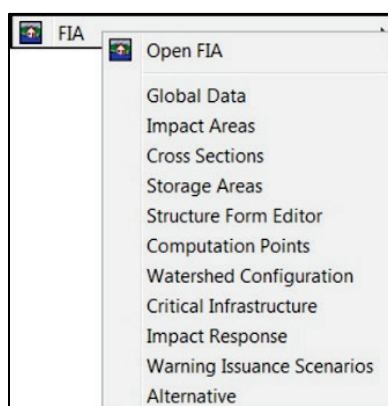
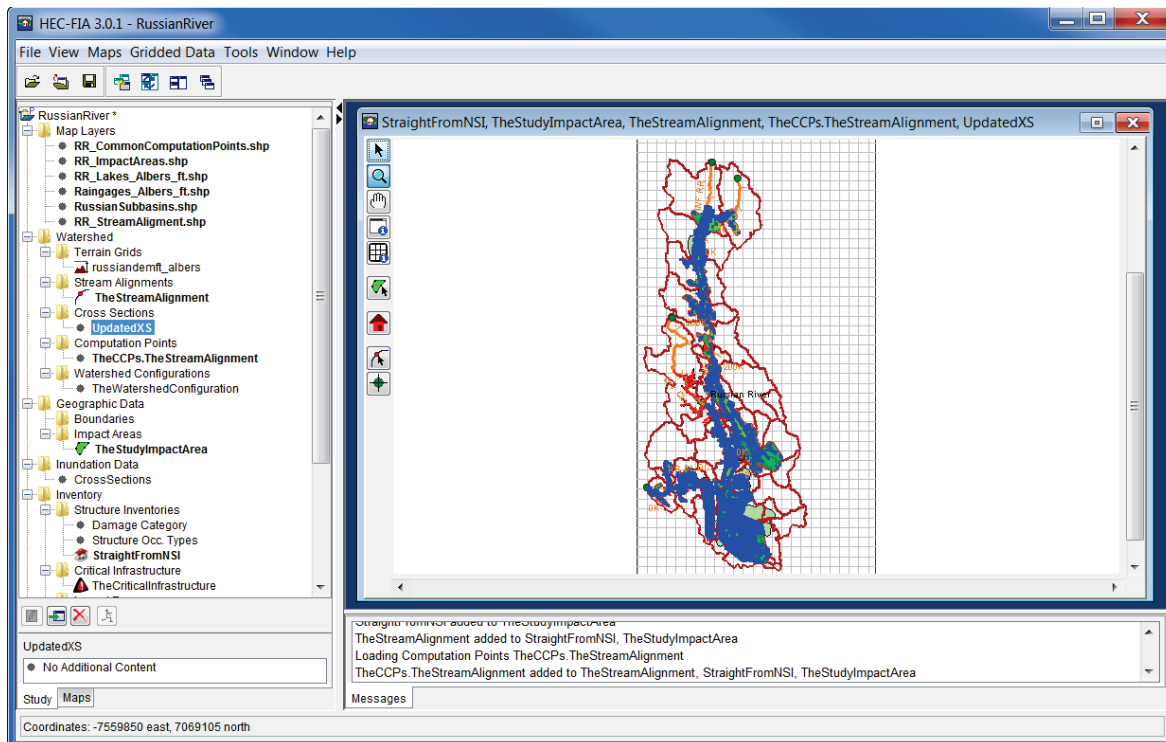

Figure L.45 Edit Menu – FIA
Figure L.46 HEC-FIA Main Window
From the HEC-WAT main window (Figure L.1), from the **Edit** menu, point to **FIA** (Figure L.45), click **Open FIA**. The HEC-FIA software application will execute and the HEC-FIA main window will display (Figure L.46). The user can modify existing HEC-FIA components model or create new HEC-FIA model components, once the user is finished and data has been saved, the HEC-FIA model information is stored in the HEC-WAT study directory, under the *fia* folder. The rest of this section provides an overview of the HEC-FIA editors that are directly available from the HEC-WAT framework.
1. From the HEC-WAT main window, from the **Edit** menu (Figure L.45), point to **FIA**, click **Global Data**.
3. Click **OK**, the HEC-FIA **Global Data Editor** (Figure L.46) will close.
1. From the HEC-WAT main window, from the **Edit** menu (Figure L.45), point to **FIA**, click **Impact Areas**.
1. From the HEC-WAT main window, from the **Edit** menu (Figure L.45), point to **FIA**, click **Structure Form Editor**.
1. From the HEC-WAT main window, from the **Edit** menu (Figure L.45), point to **FIA**, click **Critical Infrastructure**.
1. From the HEC-WAT main window, from the **Edit** menu (Figure L.45), point to **FIA**, click **Warning Issuance Scenarios**.
1. From the HEC-WAT main window, from the **Edit** menu (Figure L.45), point to **FIA**, click **Alternative**.